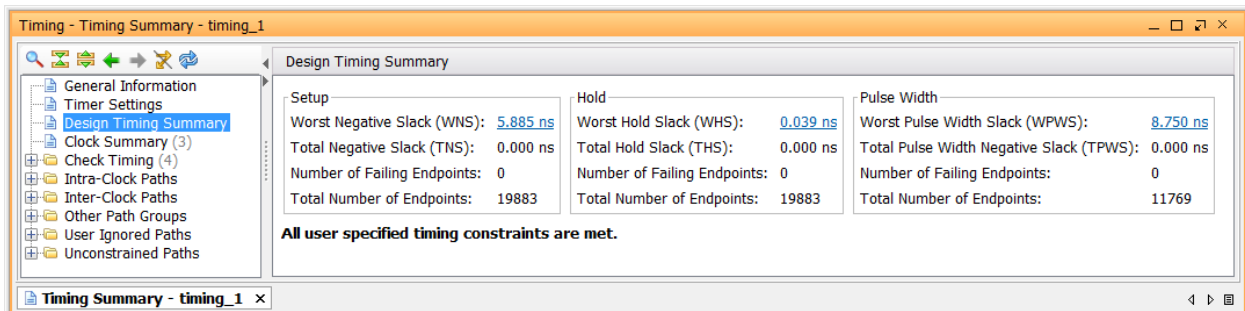

Figure 69: Timing Summary
8. Ensure that all timing constraints are met by looking at the Timing Summary tab (FIGURE 69).